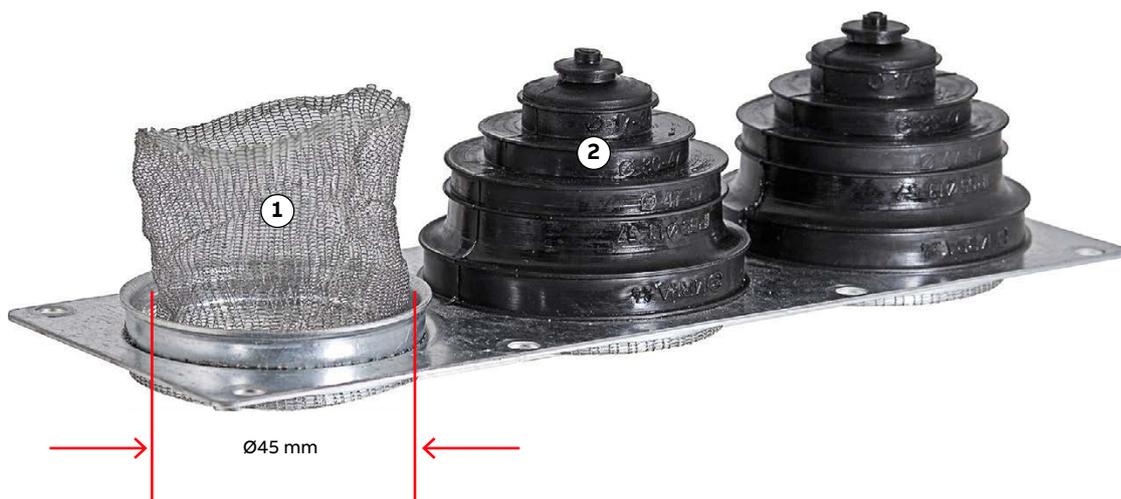

Figure 6-13 Cable entry with EMC plates
- **Included in delivery:** galvanized plate with EMC mesh (Fig. 6-13: 1) and sealing grommets (Fig. 6-13: 1)